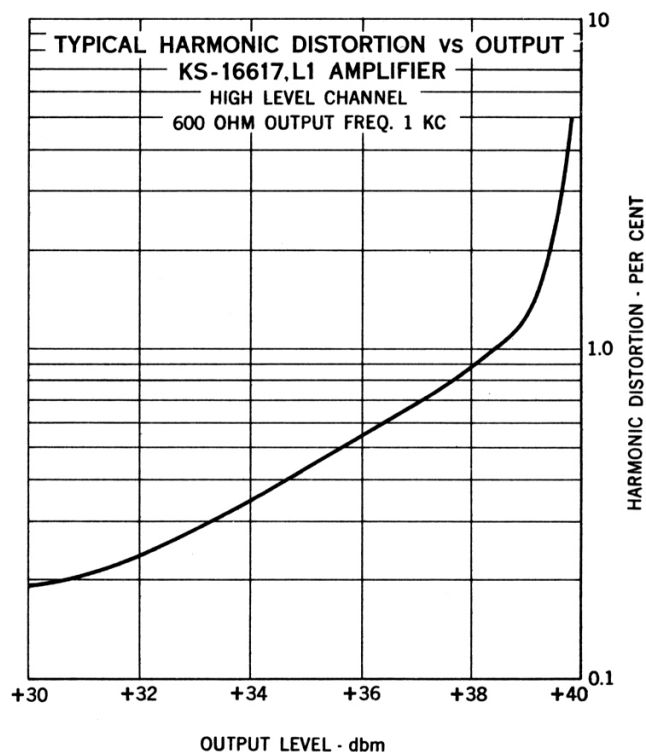

Fig. 6 – High-Level Channel — Output vs. Distortion
6.04 Fig. 6 shows the harmonic distortion versus output level for the high-level channel.